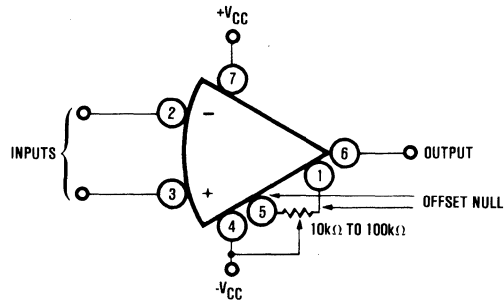

FIGURE 4. Offset Null Circuit.
3.3.2 **Offset null.** The amplifier is capable of being nulled to zero offset voltage using the circuit in Figure 4. If nulling is unnecessary for the application, delete the three components and make no connections.